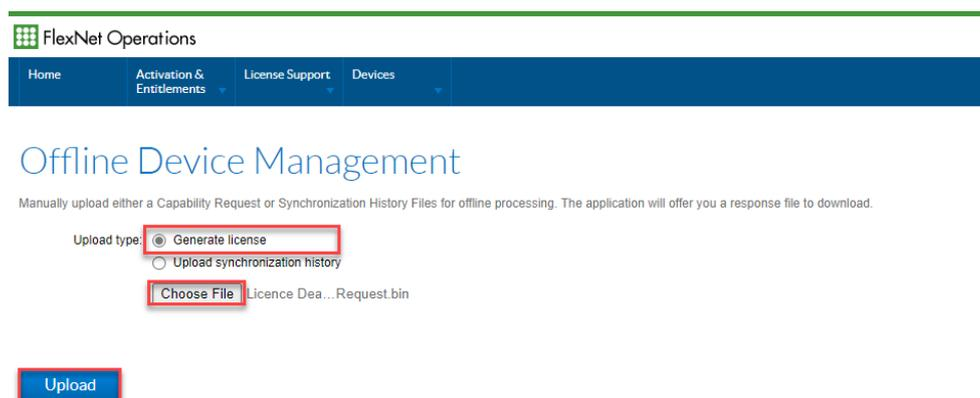

Figure 21. Offline Device Management to upload the *License Deactivation request* file.
16. This will open the **Offline Data Management** screen (Figure 21).